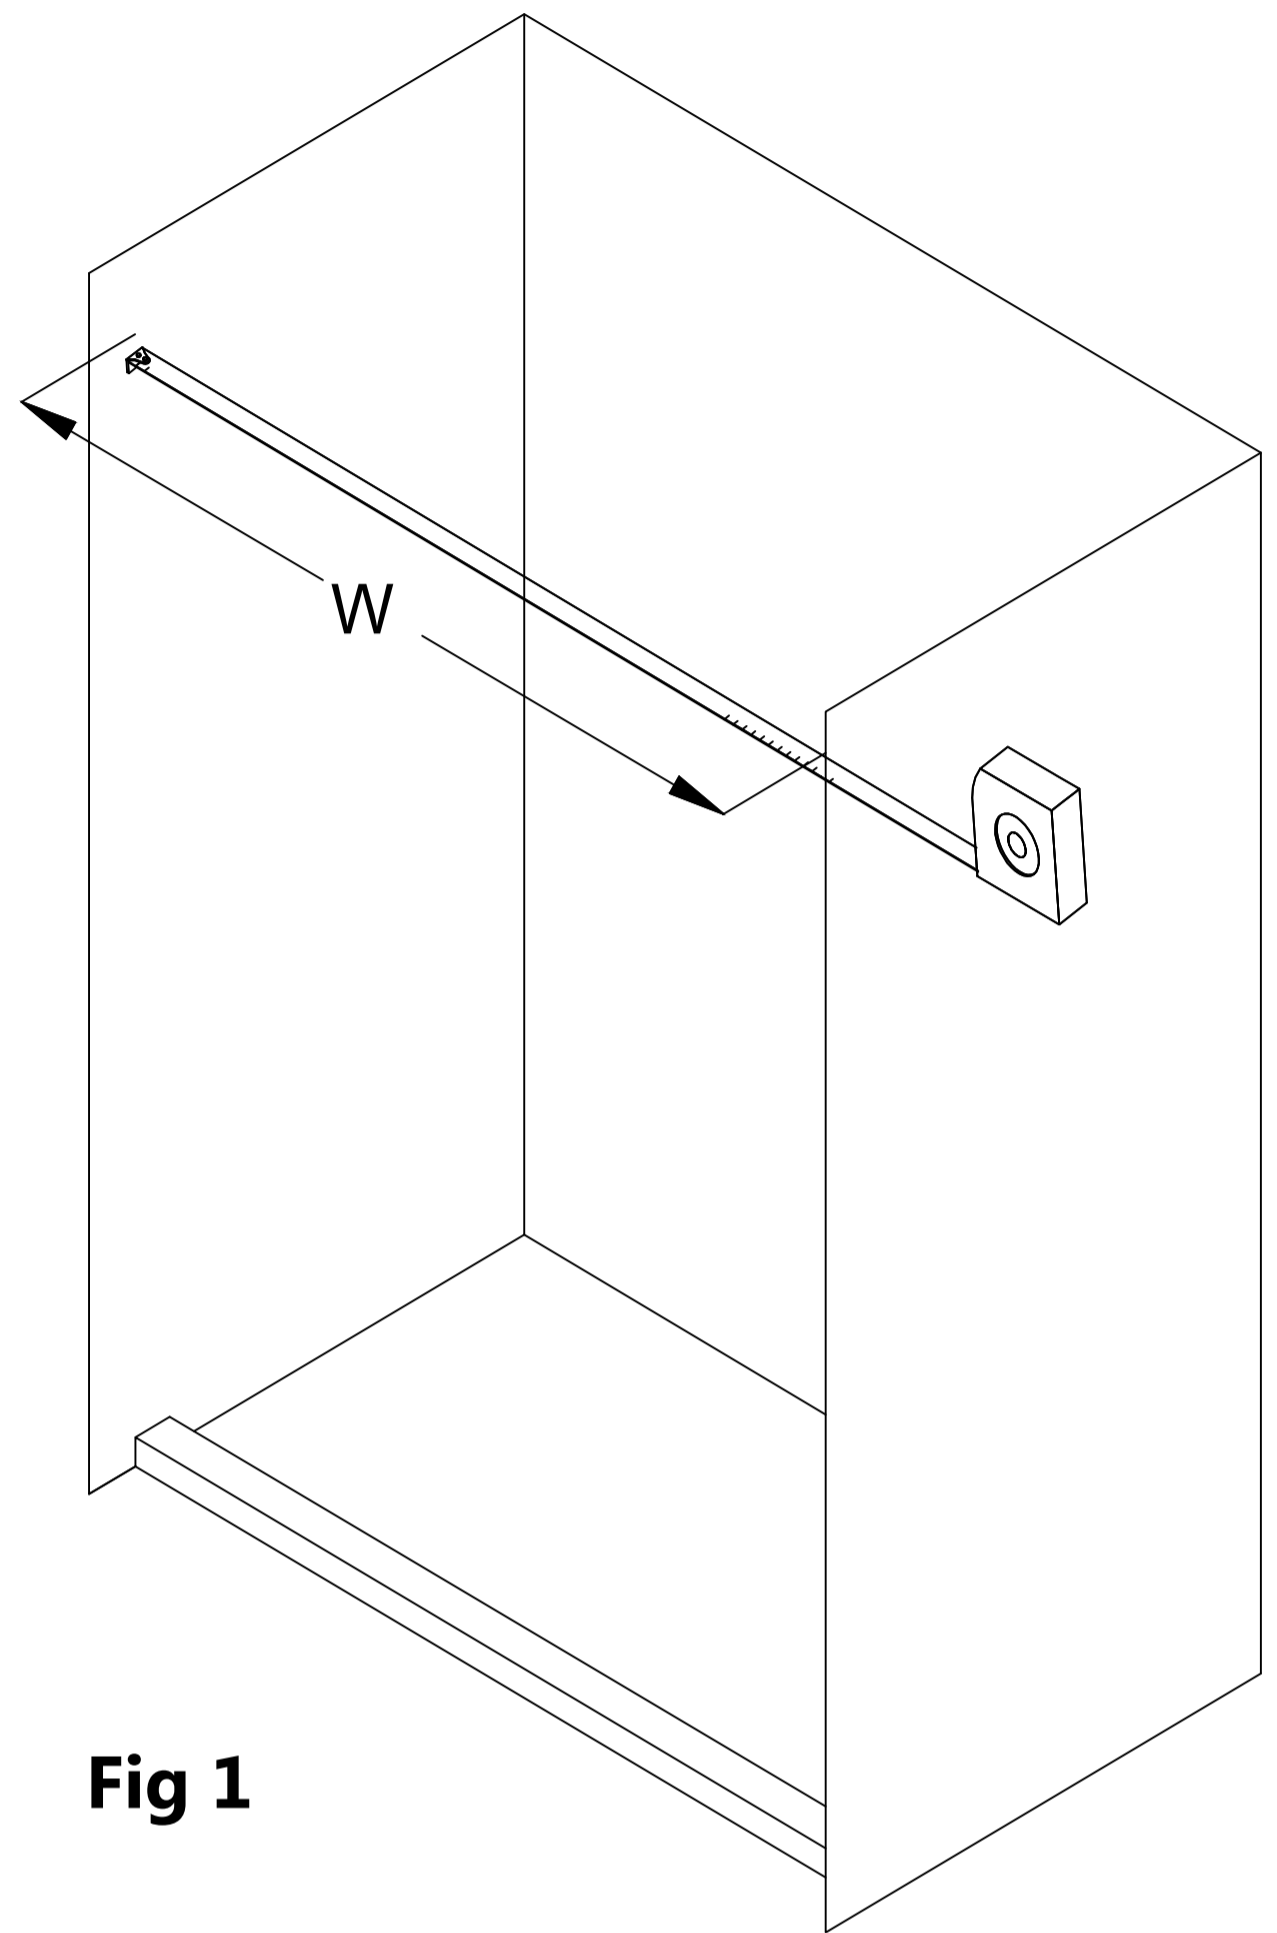

Fig 1
1 Measure the distance from the finished wall to the finished wall . This distance will represent the finished opening size "**W**" that will be used to calculate the finished cut dimension for the **Upper Guide Rail (I)**. (**Fig 1**)